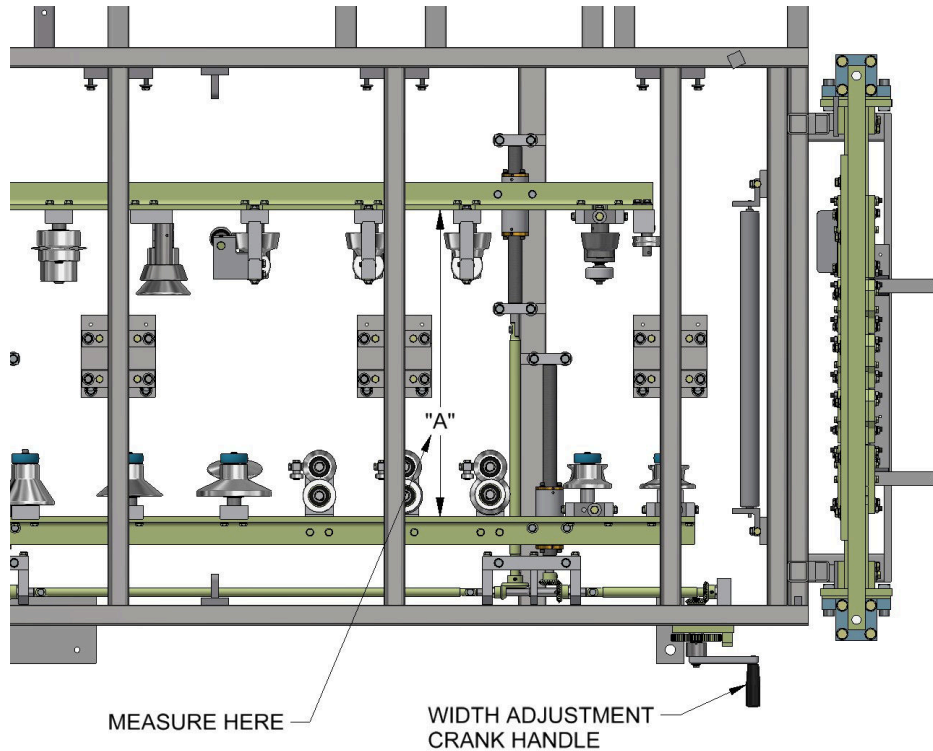

Figure 26: Tooling Rail Width Measurement
6. Measure the distance between the left and right tooling rails when in the standard (16") position and record it for reference. Shown as "A" in Figure 26 below. It should be about 22 3/16" but your machine may vary slightly.